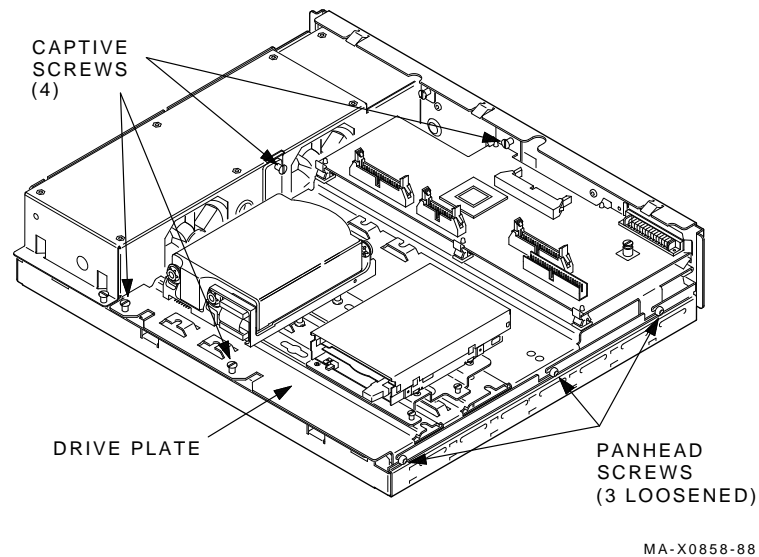

Figure 7-4 Removing the Drive Mounting Plate
3. Unscrew the four captive screws, loosen the three panhead screws (Figure 7-4), and slide the plate forward and up off the system box. Set the plate aside.